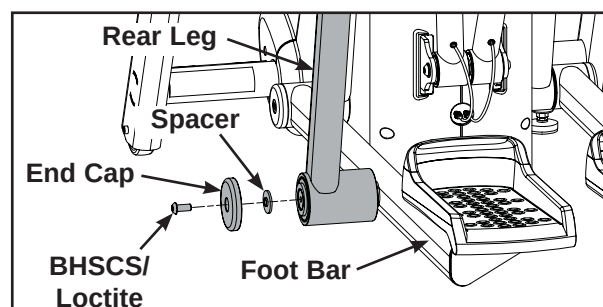
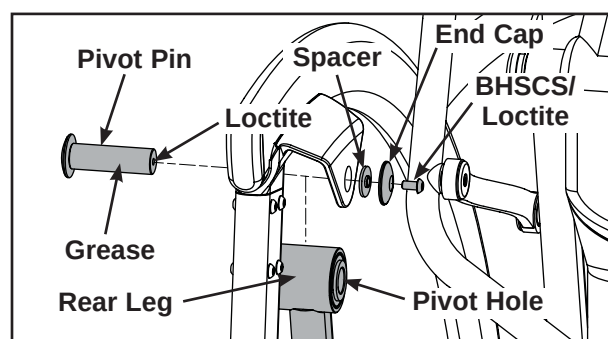

Figure 7
Figure 8
A. Using a 7/32" Allen wrench, remove the BHSCS, plastic end cap and spacer securing the rear leg to the foot bar. See Figure 7.
B. Carefully lower the rear leg. See Figure 8.
- A. Place grease on the pivot pin (removed in step 10A). See Figure 8.
- B. Place the rear leg so that the pivot hole aligns with the holes in the frame. See Figure 8.
- C. Insert pivot pin. See Figure 8.
- D. Place a drop of loctite (E) on the BHSCS removed in step 10A and another drop inside the shaft of the pivot pin into where the BHSCS will be tightened. See Figure 8.
- E. Install the BHSCS/loctite, pastic end cap and space to the pivot pin and tighten using two 7/32" Allen wrenches. See Figure 8.
- A. Place a drop of loctite (E) on the BHSCS removed in step 9A and another drop inside the shaft into where the BHSCS will be tightened.
- B. Using a 7/32" Allen wrench reinstall the BHSCS/ loctite, pastic end cap and spacer (removed in step 9A), securing the foot bar to the rear leg. See Figure 7.